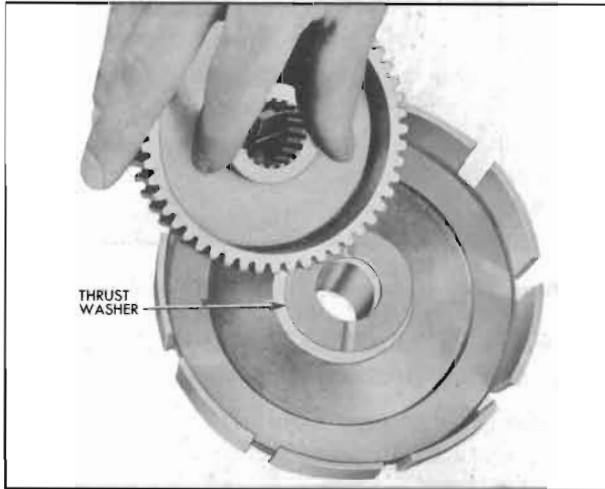

Figure 5-84—Installing Thrust Washer and Clutch Hub in Reaction Gear
3. Place reaction gear on bench with flange upward, then install clutch hub thrust washer and clutch hub over the hub of reaction gear, with open end of clutch hub facing up. See Figure 5-84.